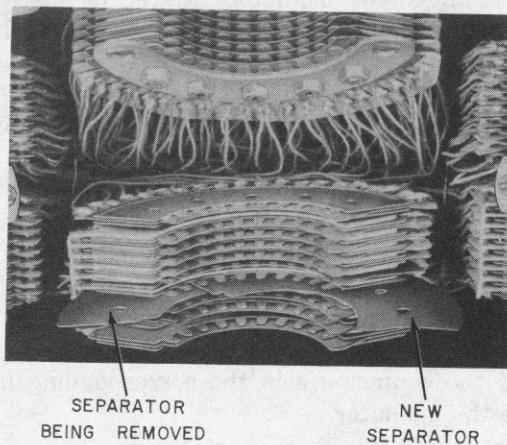

Fig. 10—Method of Placing New Separator in Bank
3.21 Insert the new separator immediately above the one being replaced, as shown in Fig. 10, and slide it into the bank. Remove the old separator and properly position the new one. If all separators in a bank are to be replaced, repeat the operations